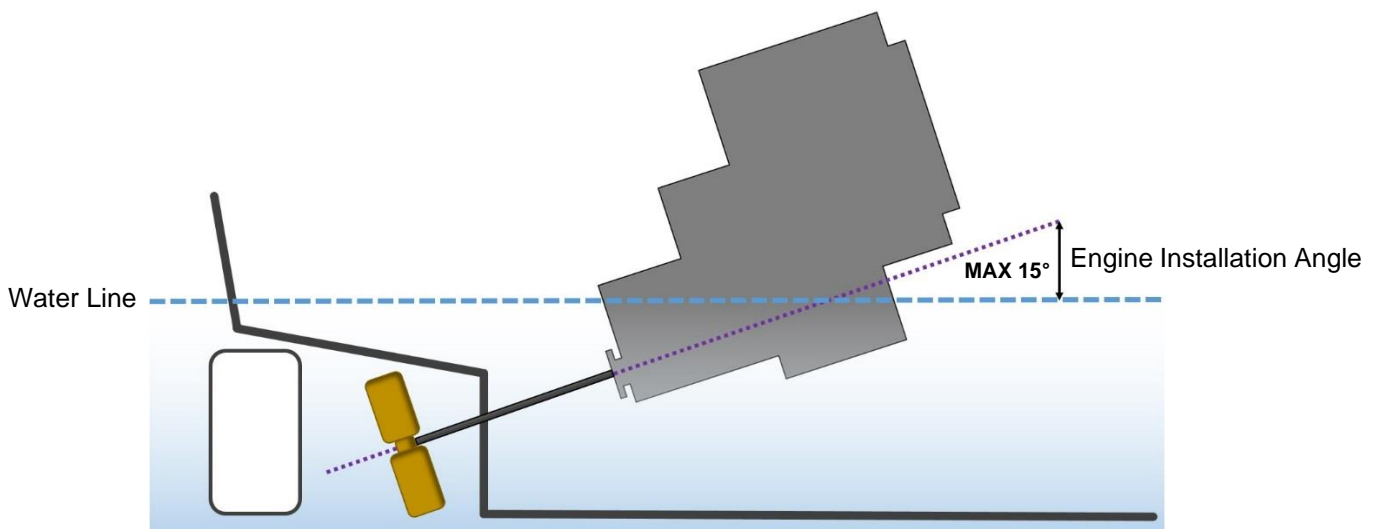

Figure 25: Maximum Engine Installation Angle
- The engine installation angle is the angle of the crankshaft centre to the water line (*Figure 25*).